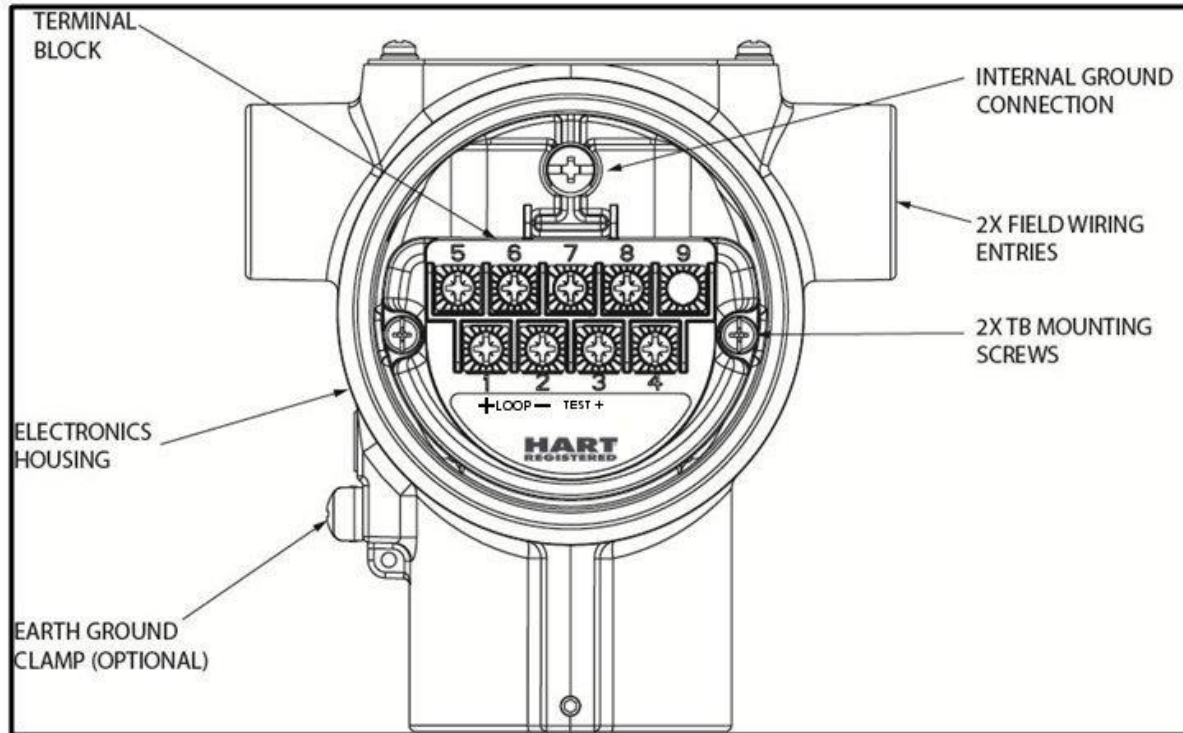

Figure 12 – Transmitter 9-Screw Terminal Board and Grounding Screw
As shown in Figure 12, each Transmitter has an internal terminal to connect it to earth ground. Optionally, a ground terminal can be added to the outside of the Electronics Housing. Grounding the Transmitter for proper operation is required, as doing so tends to minimize the possible effects of noise on the output signal and affords protection against lightning and static discharge. An optional lightning terminal block can be installed in place of the non-lightning terminal block for Transmitters that will be installed in areas that are highly susceptible to lightning strikes. As noted above, the Loop Power wiring shield should only be connected to earth ground at the power supply end.
1. See Figure 12, above, for parts locations. Loosen the end cap lock using a 1.5 mm Allen wrench.
5. Feed sensor input wires through the second housing conduit entry and connect wires per Figure 12.
Connect a wire from the Earth Ground Clamp or to the Internal Ground Connection (see Figure 12) to Earth Ground to make the protection effective. Use a size 8 AWG or (8.37mm²) bare or green covered wire for this connection.
For ungrounded Thermocouple, mV, RTD or ohm inputs connect the input wiring shield(s) to the Internal Ground Connection shown in Figure 12.
For grounded Thermocouple inputs, connect the Internal Ground Connection shown in Figure 12 to the same earth ground as used by the thermocouple.